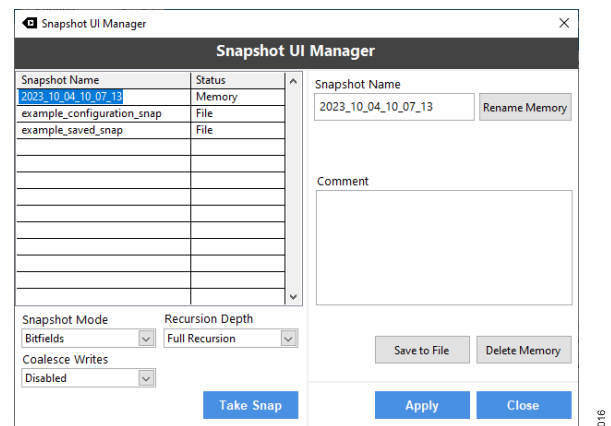

Figure 16. Snapshot UI Manager
5. Snapshots use the **Snapshot UI Manager** to save register values in a file and apply the registers at a later time (see Figure 16).